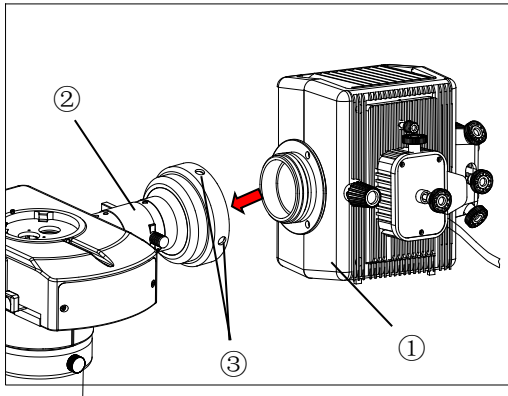

Fig.4
**2.6 Attach the light source. (Fig.4)**